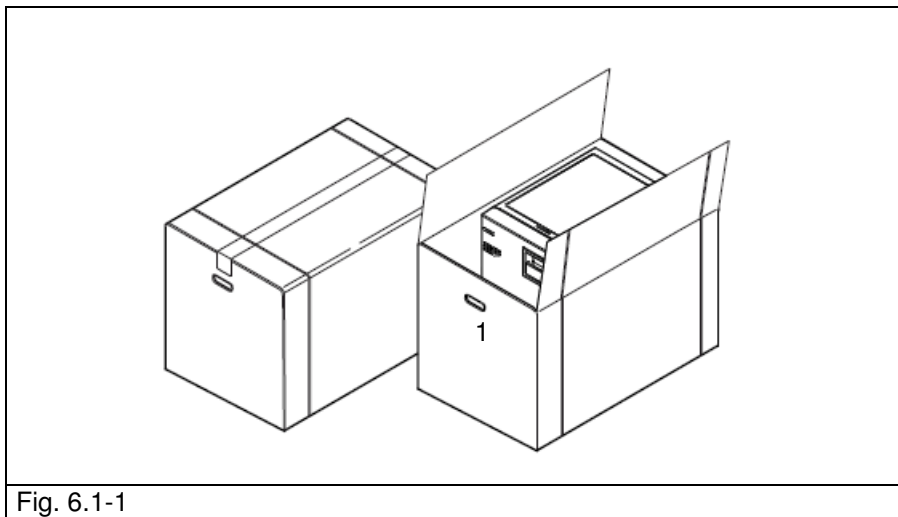

Fig. 6.1-1
The packaging and the equipment are fragile, handle with care. Transport as fragile. THE HANDLES ON THE PACKAGING (1 of Fig. 6.1-1) MUST ONLY BE USED FOR VERTICAL LIFTING. Keep in a dry and protected place. **The packaging must be kept for the whole guarantee period.**
- Remove staples closing the top of the cardboard packaging (Fig. 6.1-1).